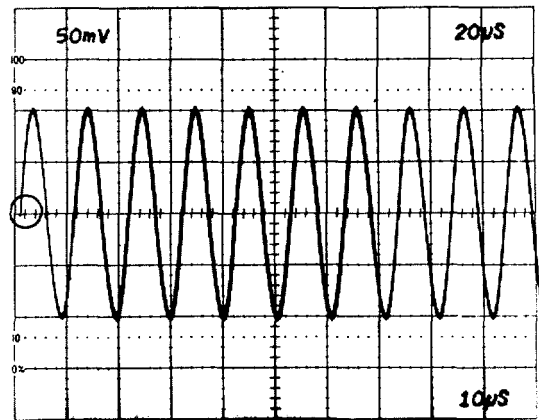

Fig. 5-9. DC balance. (Circle denotes correct trigger point.)
b. Adjust-Int DC Bal, R25, for a stable crt display at graticule centerline (TRIG'D light on). See Fig. 5-9 for reference.
b. Adjust-Ext DC Bal, R59, for a sweep trigger point at graticule centerline. See Fig. 5-9 for reference.
b. Adjust-Int DC Bal, R245, for a Delayed sweep trigger point at graticule centerline. See Fig. 5-9 for reference.
b. Adjust-Ext DC Bal, R225, for a Delayed sweep trigger point at graticule centerline. See Fig. 5-9 for reference.